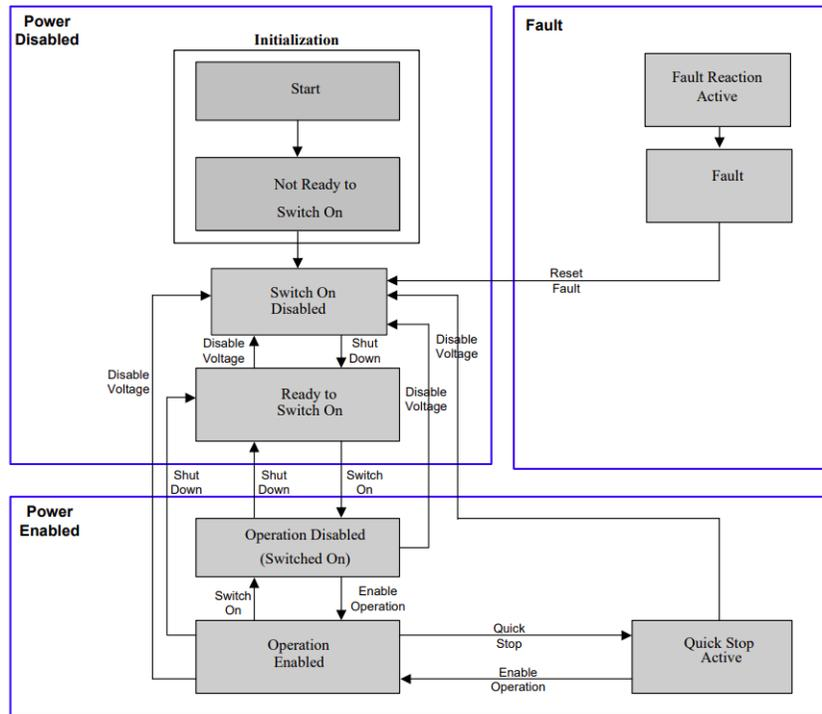

Figure 12 Overview of the State Machine
The AOI tag (AMC_Drive_Enable) is used to transition to “Operation Enabled” and to clear faults. To enable the drive, this AOI tag will transition from one state to another in a particular order using the ControlWord command instance (911). Figure 12 shows a graphical overview of the state machine.